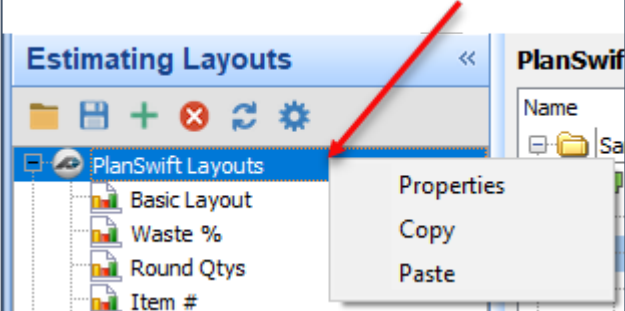

Figure 52-J
11. Right-click initiated on an **Estimating** item in the layout (Fig. 52-K):